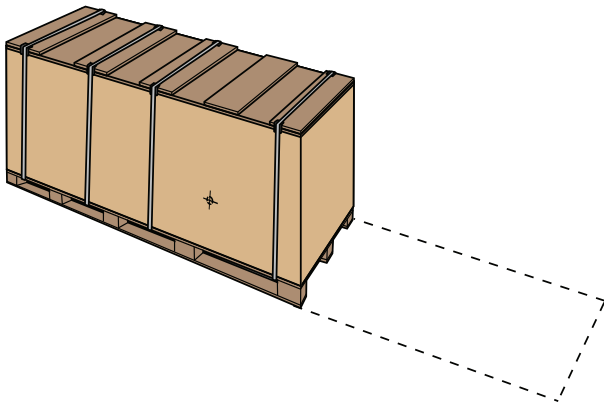

Figure 1
- the heavy side is positioned according to picture. See Figure 1.